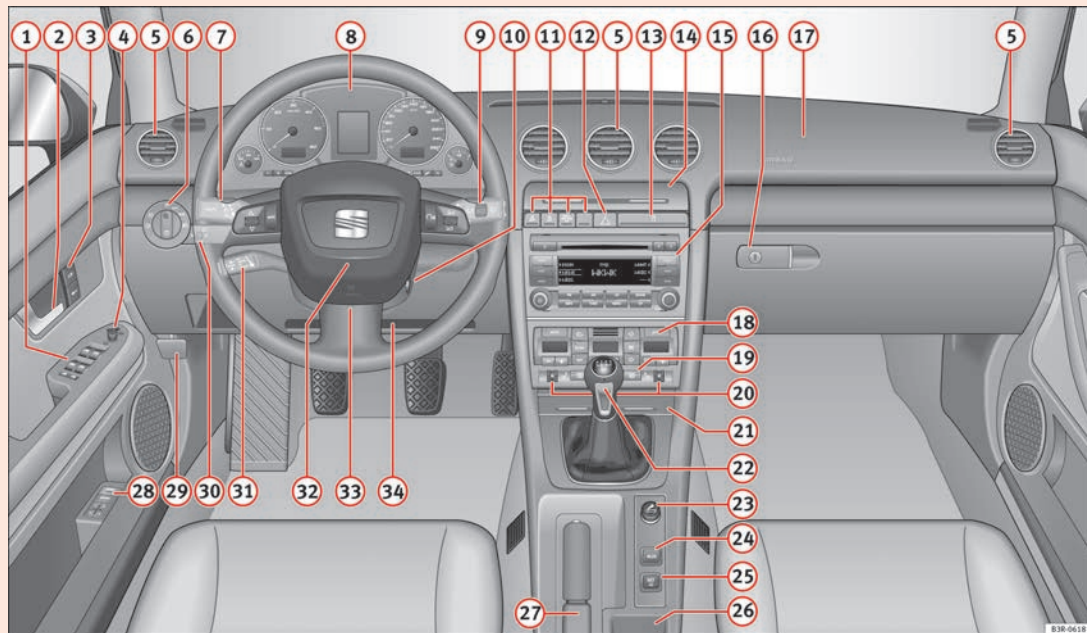

Fig. 36 Some of the equipment listed in this section is only fitted on certain models or are optional extras.
- The arrangement of switches and controls on right-hand drive models* may be slightly different from the layout shown in ⇒ Fig. 36. However, the symbols used to identify the controls are the same. ■